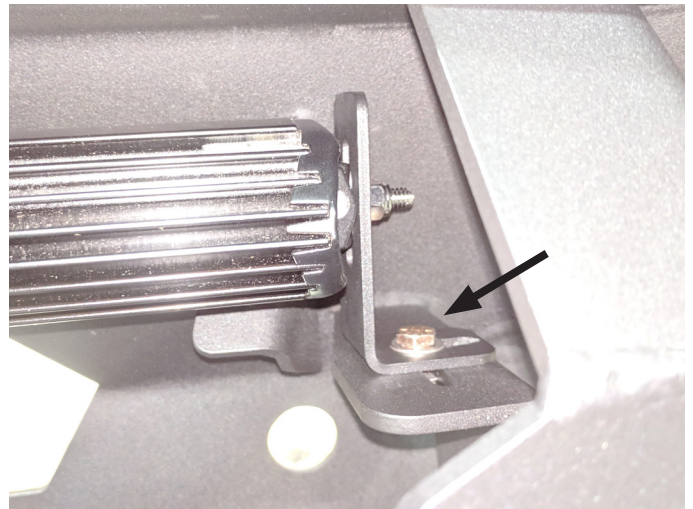

Figure 6
6. If applicable: Install your 30" light bar at this time using the provided two (2) L-brackets (21871) with the 1/4" bolts, nuts, flat and lock washers (50177-HW). (Figure 6)